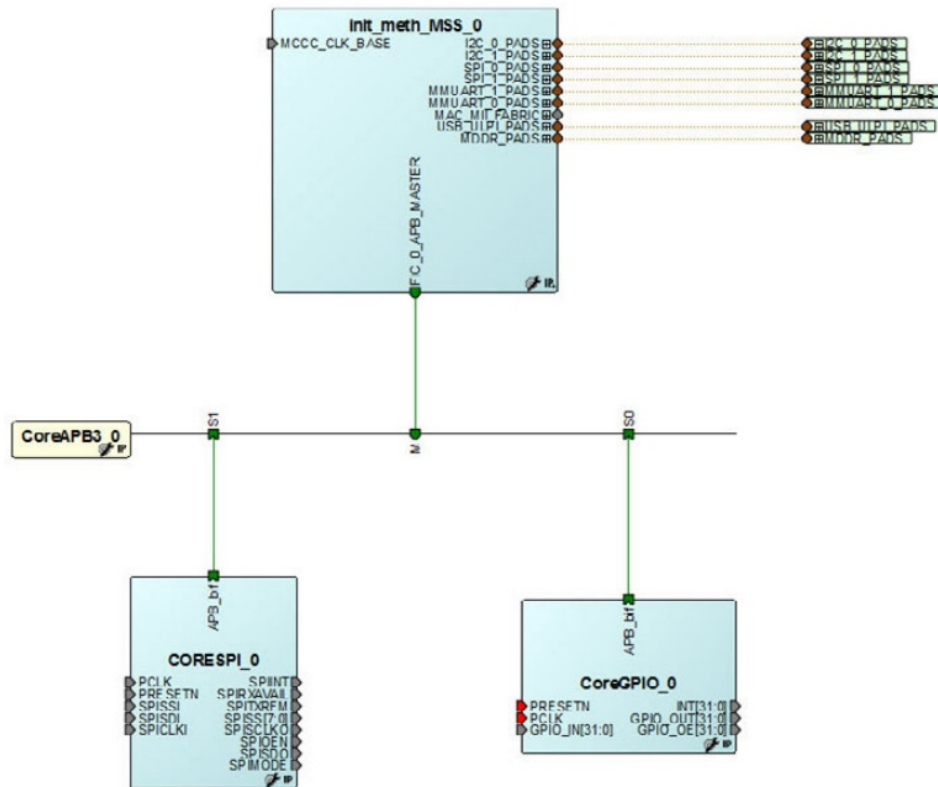

Figure 5-9 • FIC Master/APB3 Sub-System
- Connect the CoreAPB3 mirrored-master Bus Interface (BIF) port to the MSS master BIF port FIC_0/1_APB_MASTER – as shown in Figure 5-9.